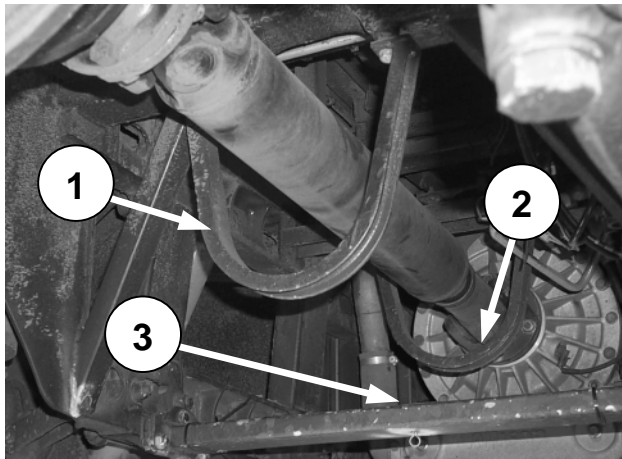

Figure 4:
- 1) Working underneath the coach, undo and remove the nuts and bolts securing the fore most and rear most propeller shaft safety guards to the chassis (see Figure 4). Remove the safety guards.
Lower the propeller shaft onto the chassis cross member indicated in 3, Figure 4.